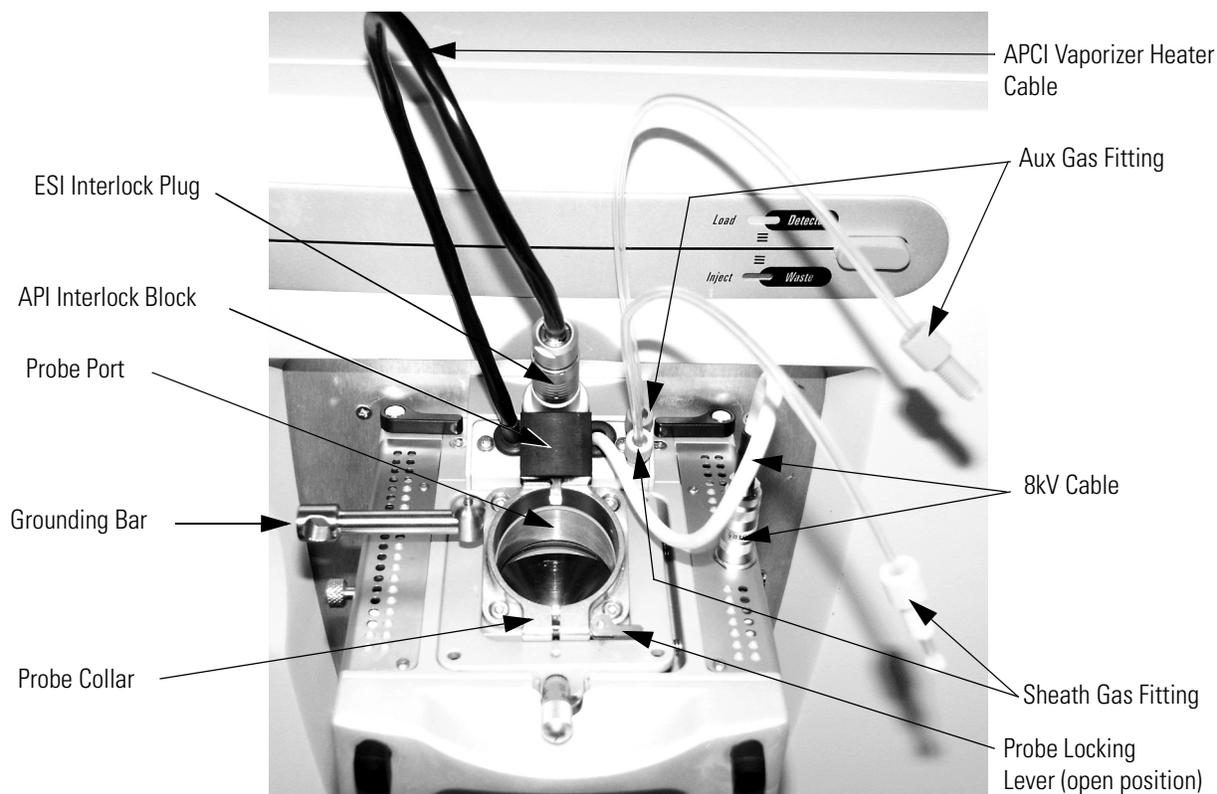

Figure 13. Ion Max ion source housing probe locking lever open
2. Ensure that the probe locking lever on the ion source housing is unlocked (opened to its widest position). See Figure 13.